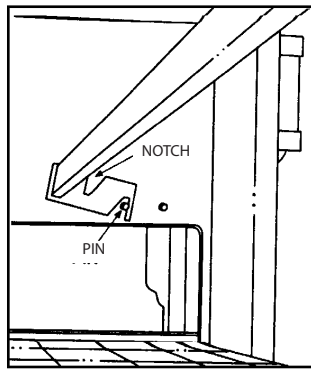

Figure 1
1. Before installing the retaining brackets in the oven(s), be sure all of the packing material is removed from the plenum shroud. Install the finger retaining brackets by placing them upside down and hooking the retaining pin as shown. (See **Figure 1.**)